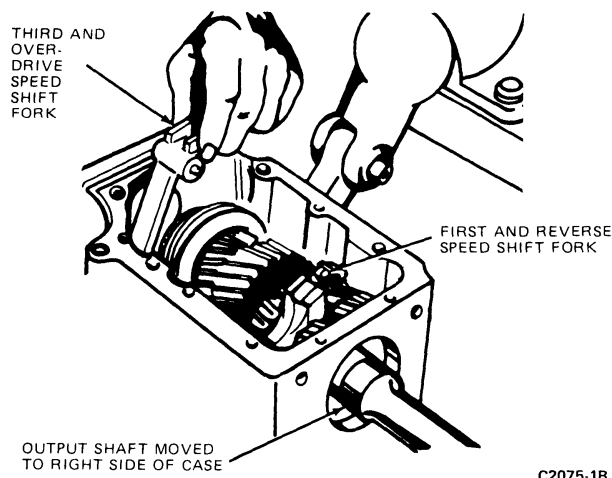

FIG. 9 Removing Shift Fork from Case
17. Move the output shaft to the right side of the case to provide clearance for the shift forks. Rotate the forks as shown in Fig. 9, then lift them from the case.